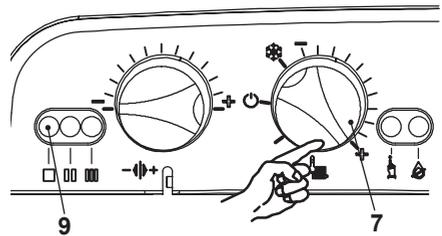

Fig. 7.7
- Turn the boiler ON positioning the control selectors 7 in the positions as shown in as in Fig. 7.7 and ensure that the timer selector switch and room thermostat, if fitted, are set to "heat demand".
- Watch the gauge and check to see if the ignition pressure registered corresponds to the values as given in the Technical Data. Turn off the boiler and reignite it by turning the function selector 7 to the OFF position and then back to that indicated in Fig. 7.7.